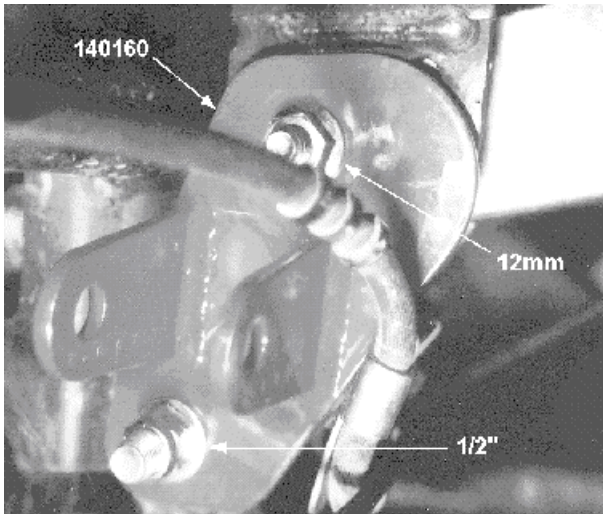

fig. 7
17. Place a 1/2" Nyloc nut and small 1/2" washer (both from bag # 860043) on the bolt and finger tighten. Place a M12 flange nut (from bag # 860043) on the M12 X100 bolt and finger tighten. **Refer to fig. 7.**